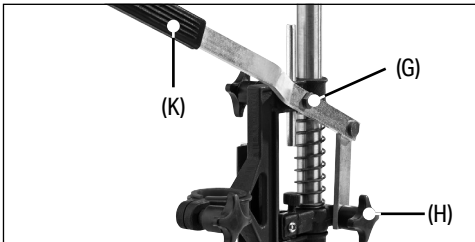

Fig. 3
3. Attach and secure the leverage handle (K) with the bolt (G) and the handle knob (H). (Fig 3)